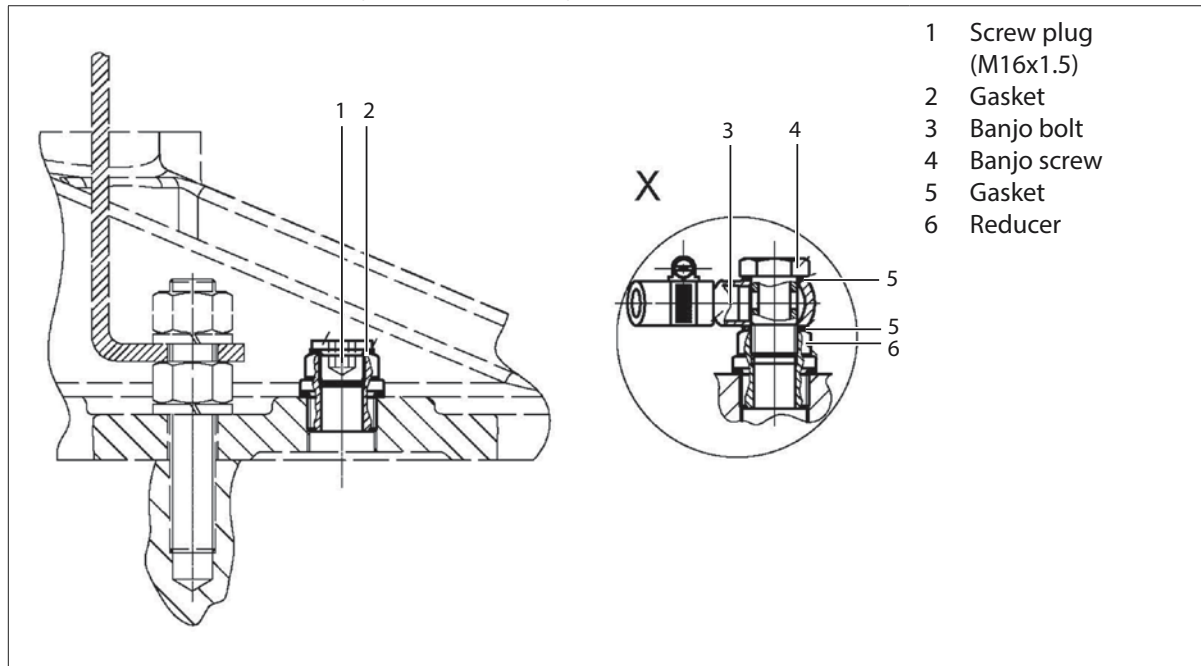

Fig. 13: Accessory set, Part 3: Hollow screw and two gaskets
1. Remove the screw plug (1) marked with a red dot and the gasket (2) underneath it.
2. Into the open threaded hole of the reducer (6), screw the banjo bolt (3) of the connection hose according to Fig. 13, detail X with new gaskets (5) and new hollow bolt (4), taking into account the arrangement of the components.